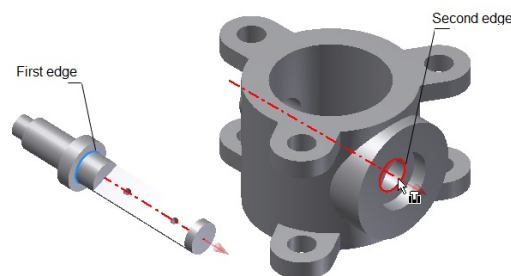

Figure 9-65 *Selecting the edges to apply the **Insert** constraint in Figure 9-65.*
4. Select the inner edge of the counterbore hole as the second edge, refer to Figure 9-65. As soon as you select the second edge for applying the constraint, the preview of the Shaft assembled with the Body is displayed. This is because the **Show Preview** check box is selected by default in the **Place Constraint** dialog box.